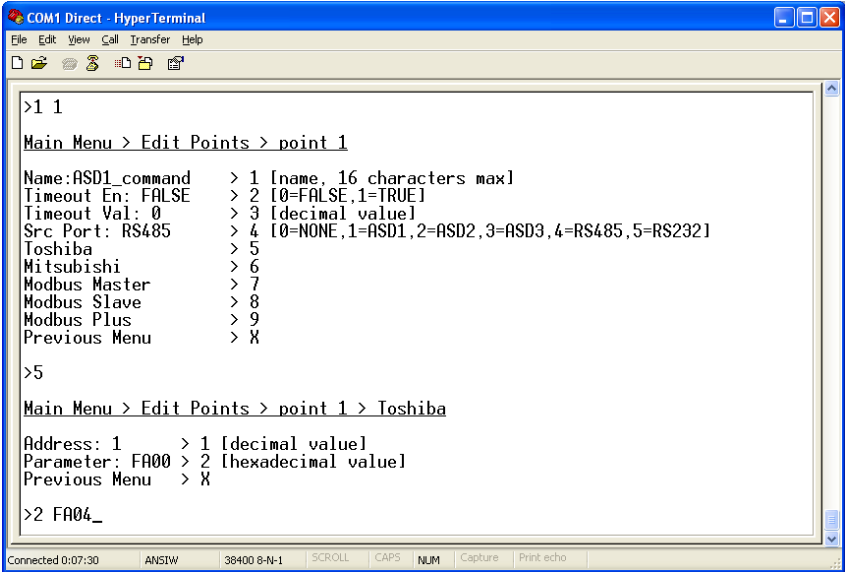

Figure 17: Edit Toshiba Attributes
- Edit Parameter:** Menu selection 2 allows you to edit the Toshiba ASD parameter that this point will access. Figure 17 shows an example of how to change the current setting of FA00 to FA04 (which would be a typical change if the Toshiba RS485 protocol were to be used with this point). Note that Toshiba parameter values must be entered in hexadecimal format.